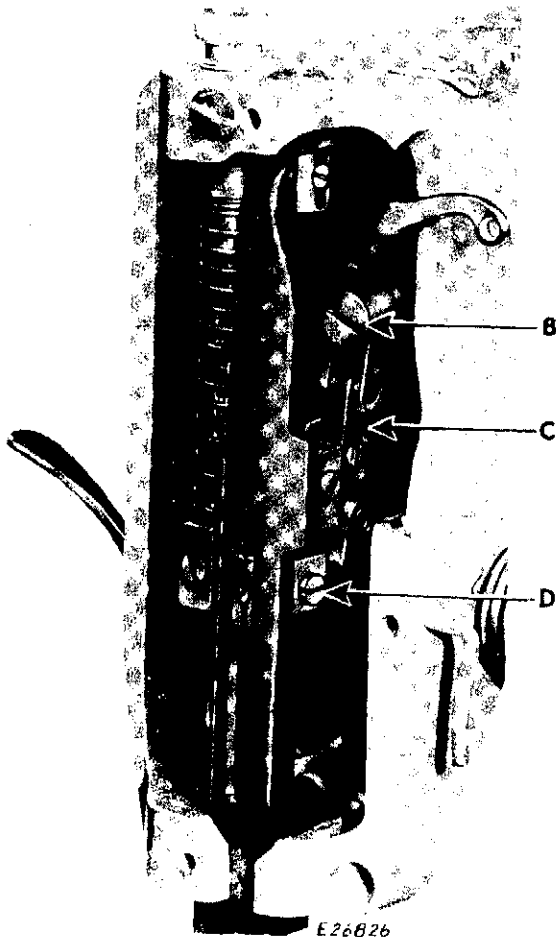

Fig. 258. To Replace Needle Bar Connecting Link
To replace the connecting link #105015 (C, **Fig. 258**):
- (d) Loosen needle bar screw **D**, **Fig. 258** and pull needle bar down through throat plate opening.
- (e) Loosen screw **B**, **Fig. 258** which holds thread take-up crank and ease out complete assembly.